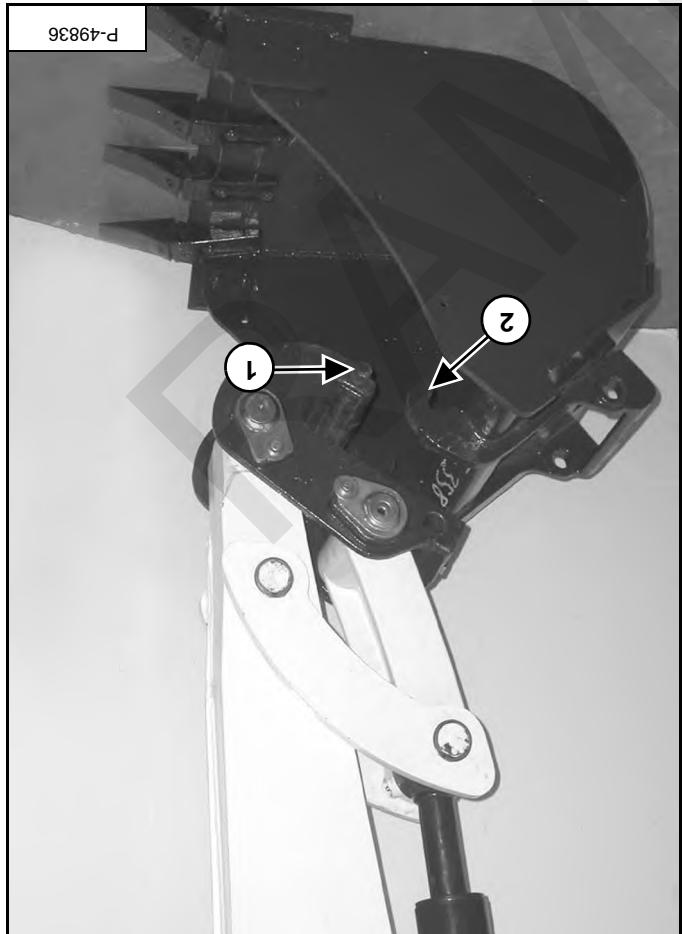

Figure 125
Fully retract the bucket cylinder and lower the boom and arm until the attachment is on the ground, and the X-Change pins (item 1) are disengaged from the ground, and move the arm toward the excavator until the X-Change pins (item 2) [Figure 125].